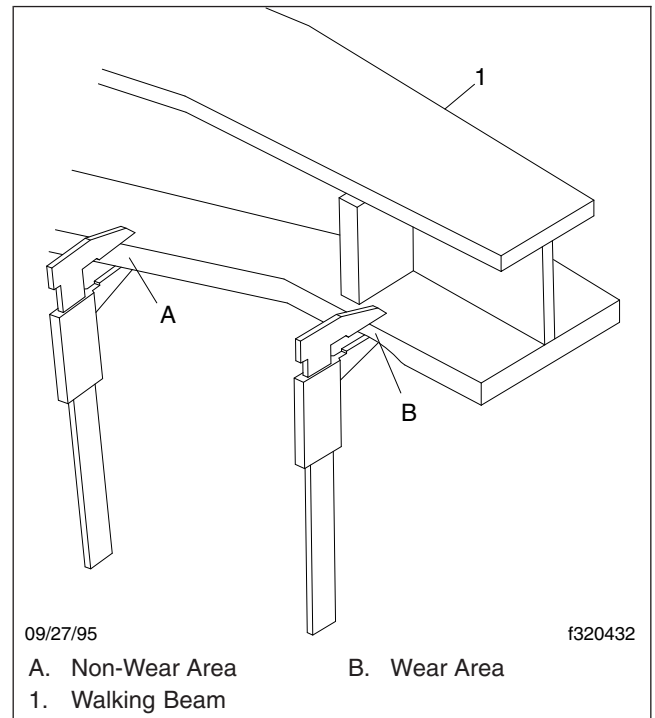

Fig. 7, Walking Beam End Wear Thickness
- Manipulate the walking beam so that a micrometer, vernier, or dial caliper can be used to determine the wear area thickness on the bottom face. See **Fig. 7**. Measurements should be taken a minimum of 1/2 inch from the beam flange edges to eliminate any edge wear that may have occurred. Subtract the wear area thickness (see **Fig. 7**, Ref. B) from the thickness at the non-wear area (see **Fig. 7**, Ref. A) to determine the amount of wear.